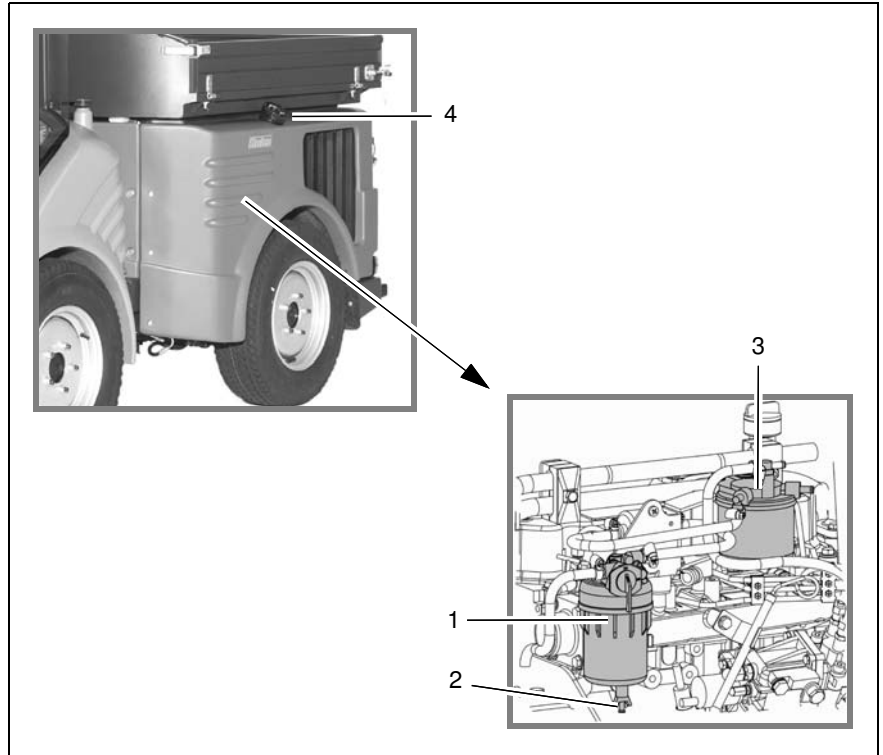

Fig.45
The fuel tank is located on the left-hand side of the vehicle on the rear section. Open the tank cap (Fig. 45/4) and fill with diesel corresponding to DIN 51601. Tank contents: approx. 60 liter.
Check the water separator every week and, if necessary drain the condensation from the water separator (Fig. 45/1).
3. Open the drainage screw (Fig. 45/2), and collect the condensation water.
The fuel filter (Fig. 45/3) has to be changed after every 500 hours of operation.
2. Unscrew the fuel filter (Fig. 45/3) and hold together with the fuel in a suitable container.